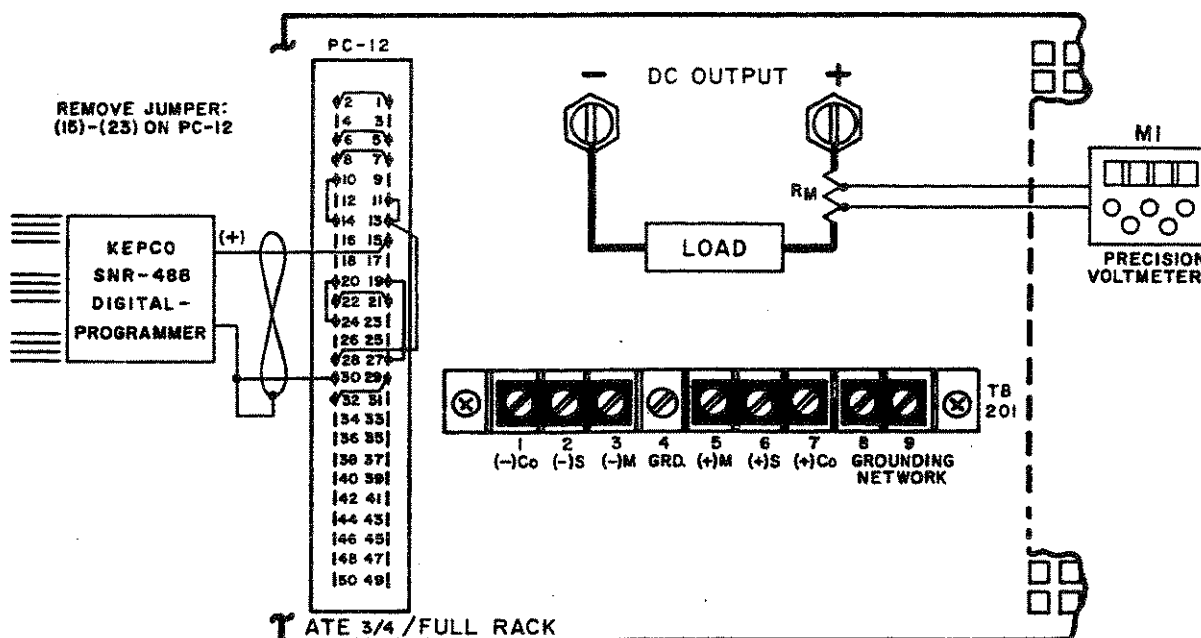

FIG. 3-11 CONNECTIONS FOR OUTPUT CURRENT CONTROL WITH A 0-1 VOLT CONTROL SIGNAL (KEPCO SN-488 DIGITAL PROGRAMMER).
**3-58 GENERAL.** The ATE output current, controlled by a front panel CURRENT CONTROL rheostat in the local control mode, can be remotely controlled by disconnecting the 15V bias from the non-inverting input of the EXT. CURRENT COMPARISON AMPL at the REAR PROGRAMMING CONNECTOR, and applying a 0 to 1 volt external control signal with reference to the ATE COMMON terminal. Since the non-inverting input of the EXT. CURRENT COMPARISON AMPL is used, only the small amplifier bias current must be supplied by the external control source. IN ALL CURRENT PROGRAMMING APPLICATIONS, THE FRONT PANEL CURRENT CONTROL SETTING OF THE ATE ACTS AS A "BACK-UP" CURRENT LIMIT AND MUST BE SET SLIGHTLY HIGHER THAN THE REQUIRED MAXIMUM OUTPUT CURRENT. An application, demonstrating this control method is described in PAR. 3-60 and illustrated in FIG. 3-11.
- 1) Connect the EXT. CONTROL VOLTAGE, (Model SN-488 Digital Programmer), the LOAD and the PRECISION VOLTMETER (M1) to the ATE as shown in FIG. 3-11.
Note: The output current value can be measured directly by means of a suitable ammeter in series with the load or, as indicated in FIG. 3-11, indirectly by means of the precision voltmeter (M1) across a current measuring resistor ( $R_M$ ).  $R_M$  should be selected such that a convenient range on the precision voltmeter can be used, e.g., for a 10 ampere output current, use a 0.1 ohm, resistor to produce a one volt full scale reading. If an electronic voltmeter is used, it should be batter-operated to avoid ground loops.